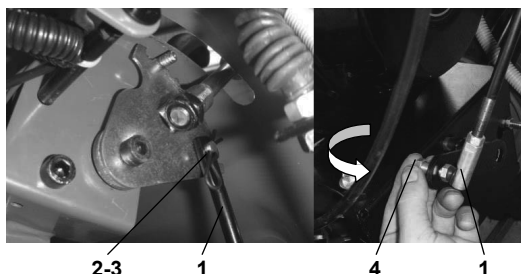

Fig. 3
3. **Mount the connecting rod** (Fig. 3): pull out pinchcock and pin bearing, drill through a bore on the connecting rod with a pin bearing, plug the pinchcock in the pin bearing, and screw the other side on the connecting rod with a nut.